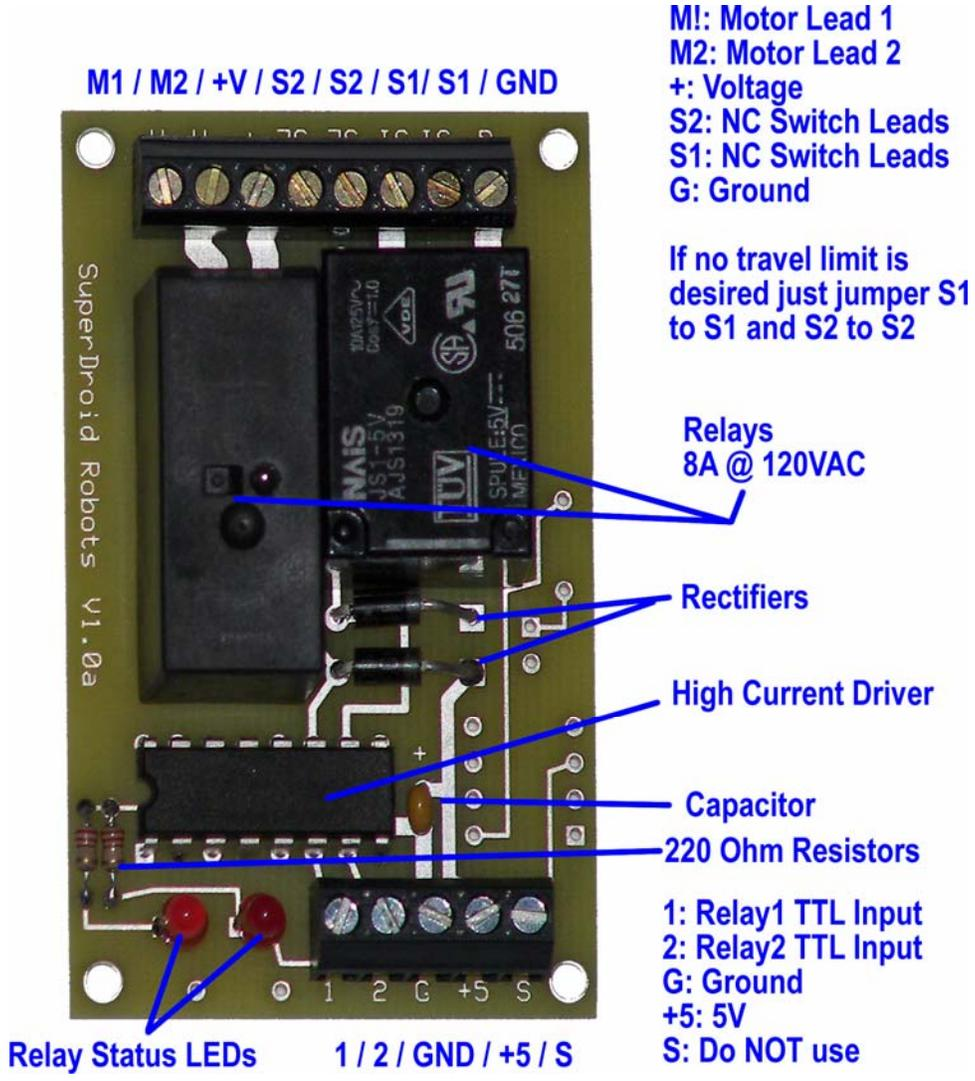

Figure 6: TTL High Current Driver with DPDT and SPDT Relay
1. Insert all the LEDs as shown in Figure 6. The short leg of the LED should go into the square pad. (they will not work if put in the other way).
2. Insert all the resistors as shown in Figure 6. Use an ohm meter or refer to the color banding to determine the values of the resistors. The orientation of the resistor is not important.
4. Insert the capacitor as shown in Figure 6. Orientation is not important.
5. Install the Screw Terminals (if provided) as shown in Figure 6.
6. Insert the Relays as shown in Figure 6.
7. Insert the high current driver IC. The orientation is important. The chip will be shorted and will not work if put in wrong. Pin one goes in the square pad hole such that the notch on the chip is closest to the label on the board. Refer to Figure 6.
8. Attach 5VDC to the board using the polarity shown in Figure 6. Turn on the power, no sparks or smoke should appear at this time.